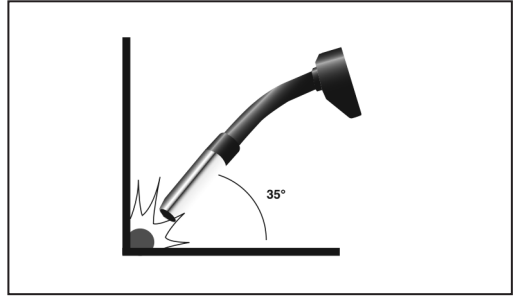

FIG. 7
8.5 MIG WELDING PRINCIPLES – FIGS. 7 – 8